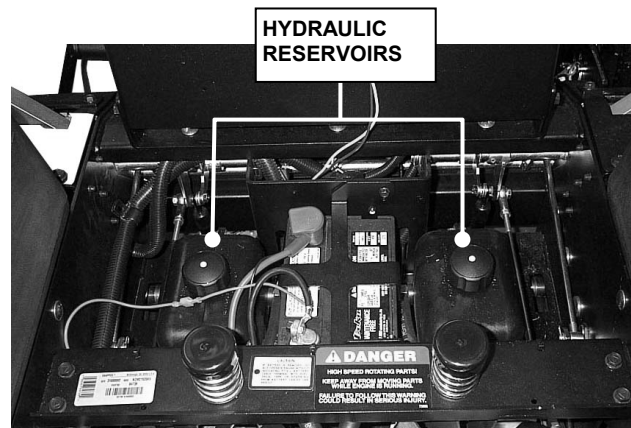

FIGURE 5
A. Locate hydraulic reservoirs underneath operator's seat. After thoroughly cleaning the area around the top of each reservoir, remove filler cap. Bring fluid to proper level (1-1/2" below the top of the filler neck). With engine off, add SAE 20W50 automotive oil. See Figure 5.